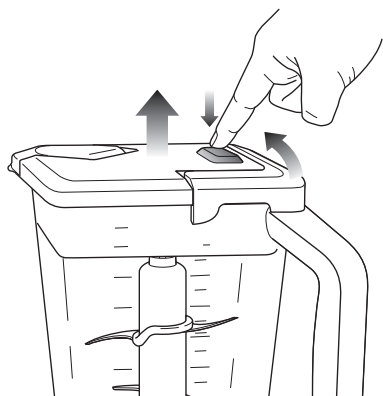

Fig. 6
- 7 If the ingredients stick to the side of the pitcher, stop the appliance by pressing the power button (⏻) and wait for the blades to stop turning. Then remove the lid by pressing the release button, lifting the handle up and pulling straight up. (Fig. 6) Use a rubber spatula to dislodge the pieces, replace the lid and continue processing.